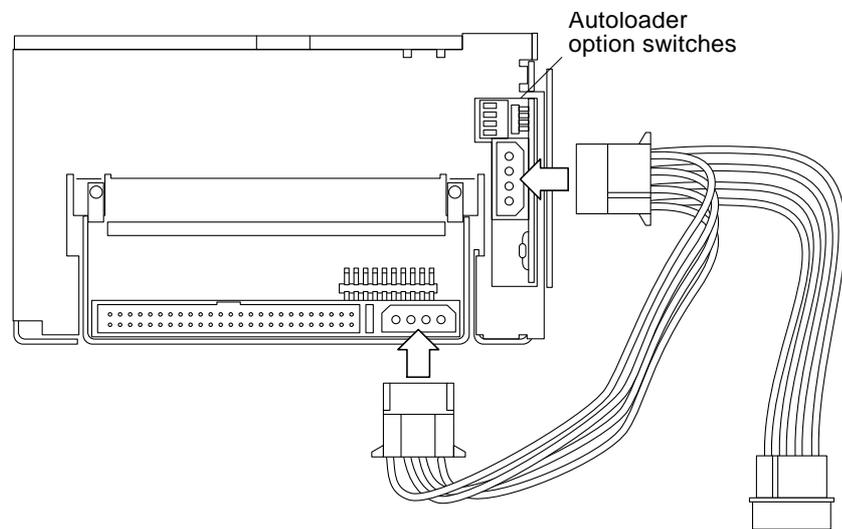

Figure 1-1 Rear of Autoloader
6. Connect the y-power cable to the embedded tape drive and the autoloader mechanism (Figure 1-1).